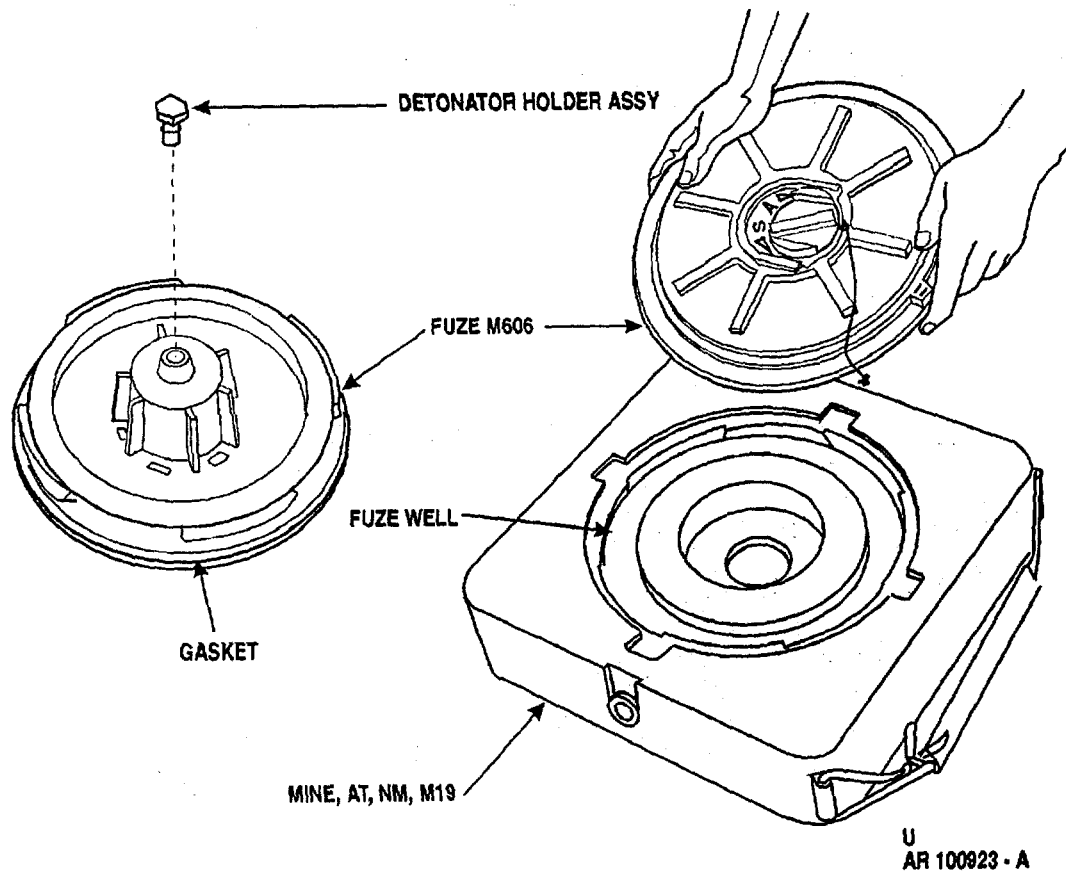

Figure 2-47. Removing fuze M606 from fuze well of mine M19.
- (1) Remove mine and fuze assembly (fig. 2-47) from shipping container.
- (2) Inspect mine and fuze for cracks, breaks, or other condition that may render mine unserviceable. If damage is found, replace with new mine.
- (3) Using wrench M22, remove fuze from fuze well by turning fuze counterclockwise until free. Lift up from fuze well (fig. 2-47).
- (4) Check fuze well for foreign matter. If present, remove foreign matter.
- (5) Assure that setting knob is in S (Safe) position and safety clip is in place. If setting knob is not in S position, remove safety clip and